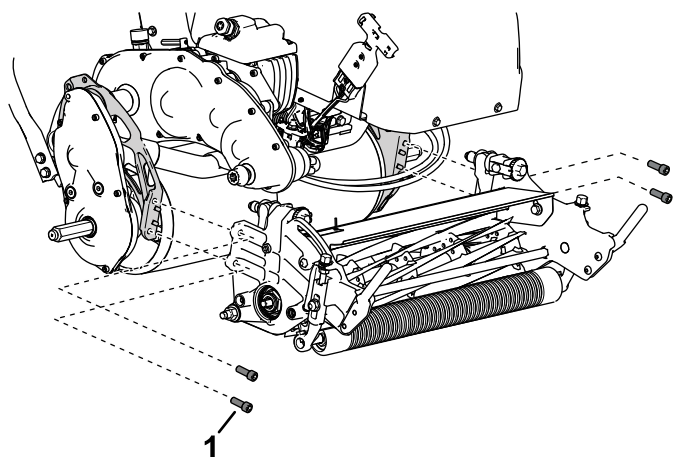

Figure 45
- Remove the socket-head screws that secure the cutting unit to the frame (Figure 45).